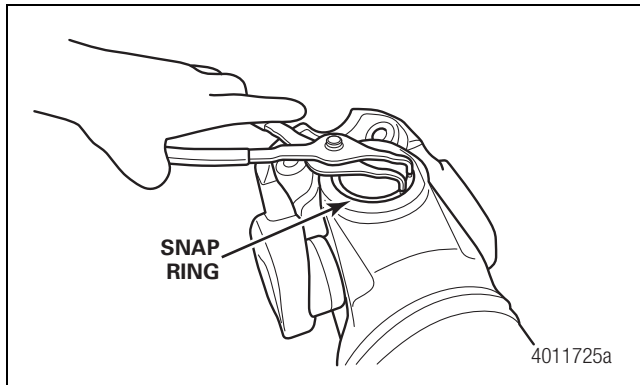

Figure 4.45
1. Use snap ring pliers (SPX Kent-Moore tool number J-44676-1) to remove the snap rings that secure the drive flange to the cross. Figure 4.45.